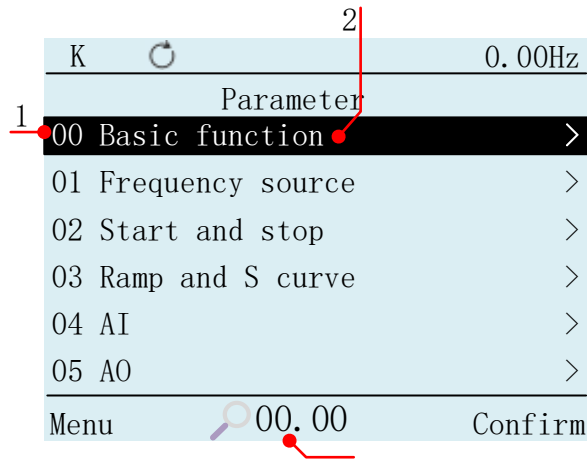

Figure 3.1 Parametric List Interface
3. The background of the function code group name shows black, indicating that the function code group is in the selected state. Press the Δ and ∇ can select functional code groups, such as: when you want to edit functional code P00.04. Select “00” sets of function codes as shown in Figure 3.1 and press the ENT key enter the function code list selection interface.